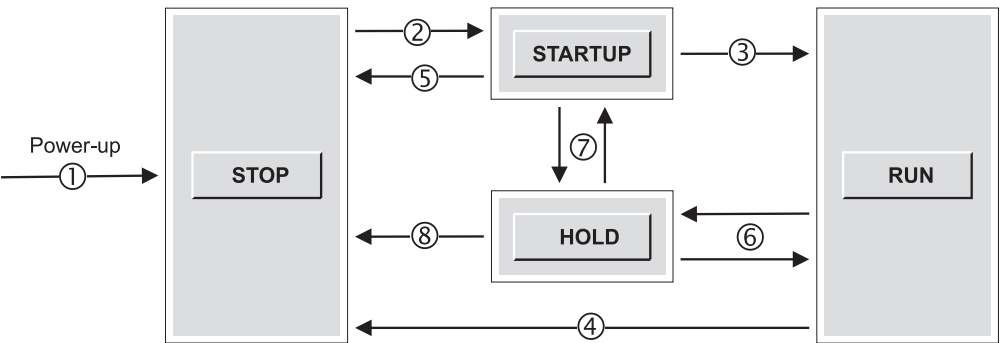

Figure 22.1 CPU Operating Modes
Following power-up ①, the CPU is in the STOP mode (Figure 22.1). If the keyswitch on the CPU's front panel is at RUN or RUN-P, the CPU switches to START-UP mode ②, then to RUN mode ③. If an "unrecoverable" error occurs while the CPU is in START-UP or RUN mode or if you position the keyswitch to STOP, the CPU returns to the STOP mode ④ ⑤.